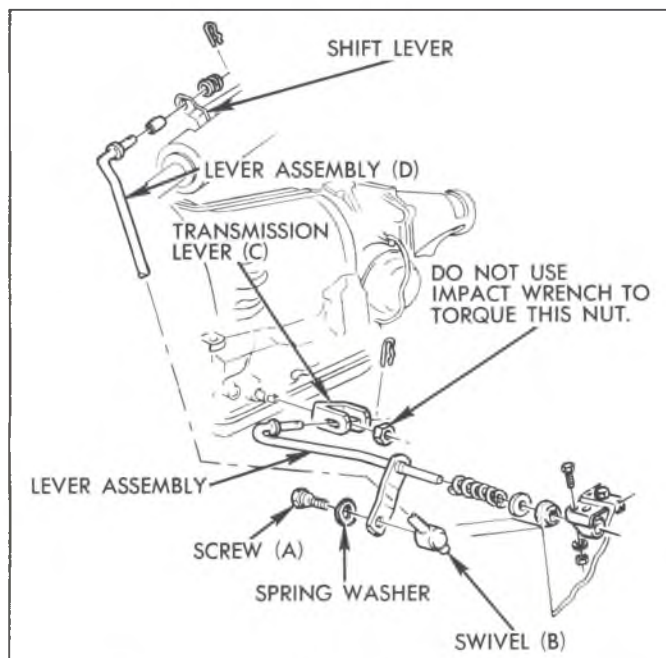

Fig. 26T—Column Shift Linkage - CK Series
3. Immediately check fluid level with selector lever in park (P), engine running and vehicle on LEVEL surface and add additional fluid to bring level to 3/8-inch below the "ADD" mark on the dipstick. Do not overfill.
**Column Shift Linkage - CK and P Series (Figs. 26T and 27T)**
2. To check for proper shift linkage adjustment, lift the transmission selector lever towards the steering wheel. Allow the selector lever to be positioned in drive (D) by the transmission detent.
4. Lift the selector lever towards the steering wheel and allow the lever to be positioned in neutral (N) by the transmission detent.
7. If adjustment is required, remove screw (A) and spring washer from swivel (B).
8. Set transmission lever (C) in Neutral position by moving lever counter-clockwise to L1 detent and then clockwise three (3) detent positions to Neutral.